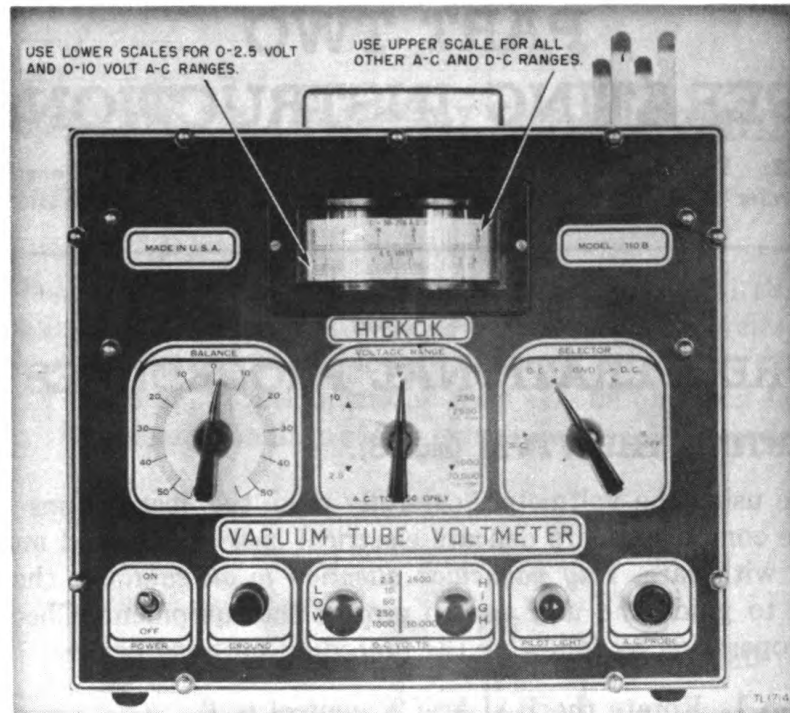

Figure 5. Vacuum tube voltmeter, panel view.
##### 9. STARTING THE VTVM (fig. 5).
(1) To measure d-c voltages having values between 0 and 1,000 volts, connect d-c test leads to the LOW and GROUND terminals (fig. 5).
(2) To measure d-c voltages having values between 1,000 and 10,000 volts, connect d-c test leads to the HIGH and GROUND terminals (fig. 5).
(3) To determine the approximate value for an unknown d-c voltage, always set the VOLTAGE RANGE switch at the 1,000-10,000 position before connecting test leads to the voltage source. The VOLTAGE RANGE switch can then, if necessary, be rotated to progressively lower voltage positions until the meter pointer swings upscale.